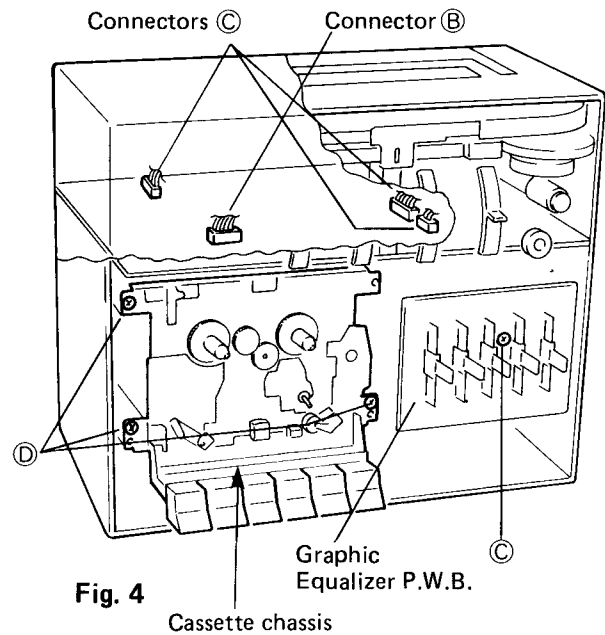

Fig. 4
3. Removing the Main P.W.B. (Fig. 4)
4. Removing the Graphic Equalizer P.W.B. (Fig. 4)
5. Removing the Cassette Chassis (Fig. 4)